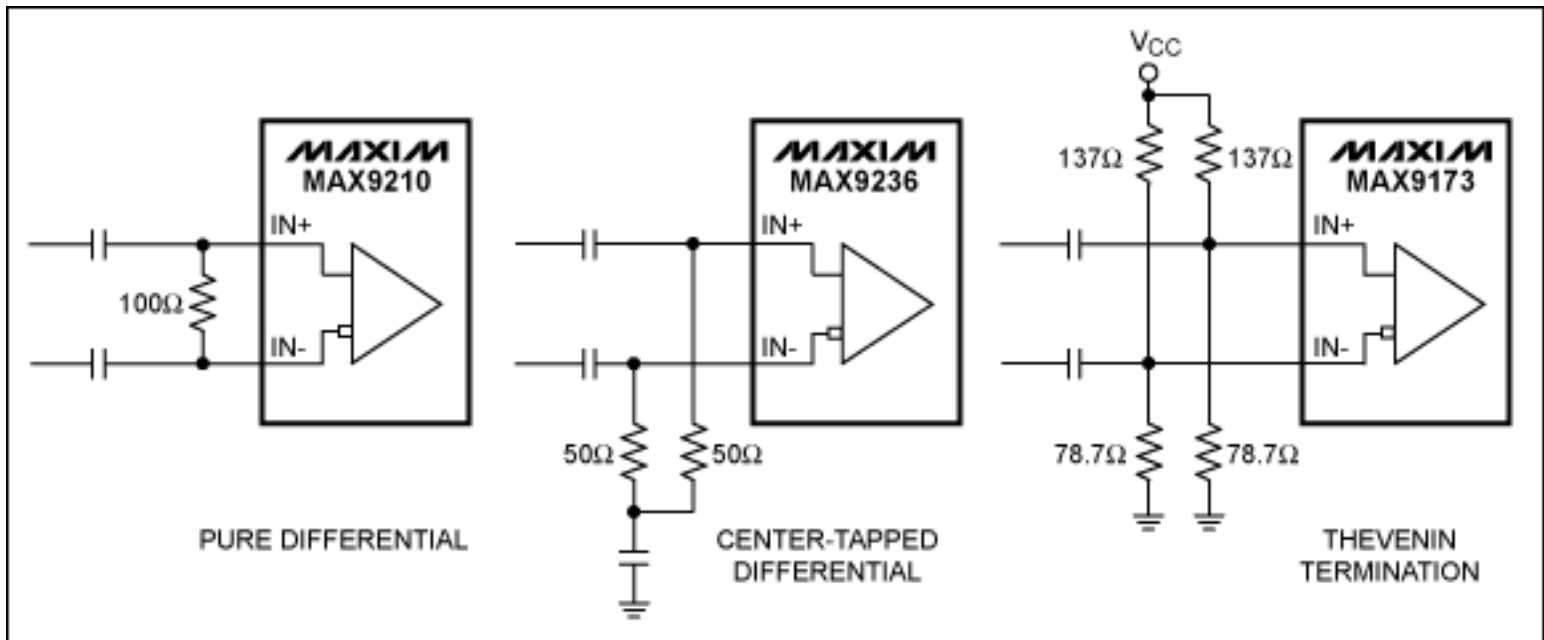

Figure 3. LVDS termination circuits.
The termination topology can be selected from three primary circuits: (1) pure differential; (2) center-tapped differential; and (3) Thevenin termination. **Figure 3** shows these three circuits.
each line is 1.2V. The values in Figure 3 work for a 3.3V supply.